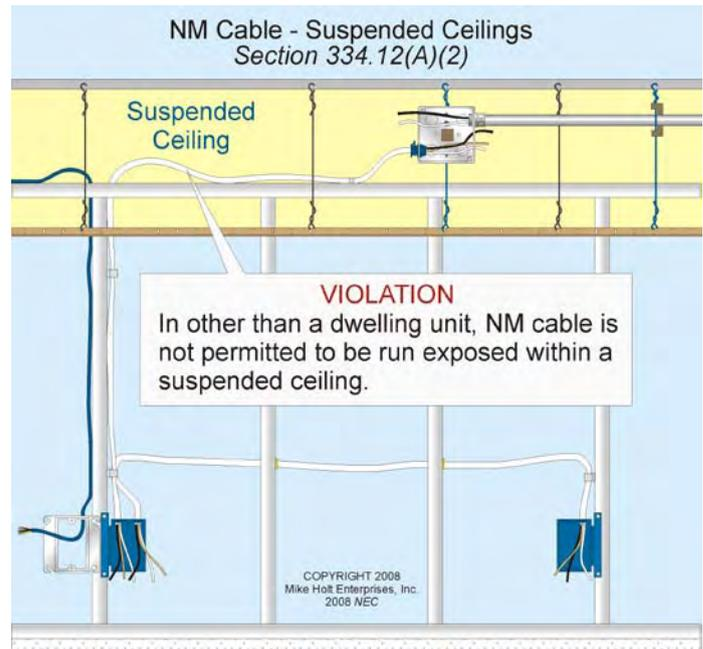

Figure 334-4
(2) Exposed in dropped or suspended ceilings in other than one- and two-family and multifamily dwellings. **Figure 334-4**
(3) As service-entrance cable.
(4) In commercial garages having hazardous (classified) locations, as defined in 511.3.
(5) In theaters and similar locations, except where permitted in 518.4(B).
(6) In motion picture studios.
(7) In storage battery rooms.
(8) In hoistways, or on elevators or escalators.
(9) Embedded in poured cement, concrete, or aggregate.